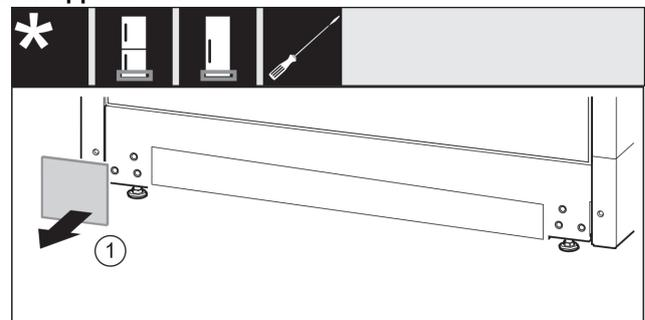

Fig. 16
- ▶ Remove the cover. Fig. 16 (1)